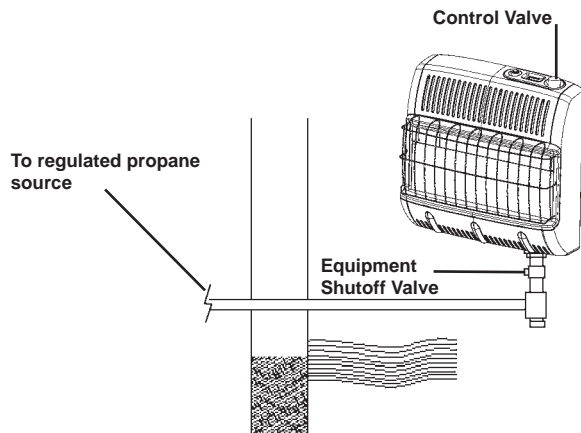

Figure 14
3. Check all joints from the gas meter to equipment shutoff valve (see figure 14). Apply mixture of liquid soap and water to gas joints. Bubbles forming show a leak.
5. Check all joints from equipment shutoff valve to control valve (see figure 14). Apply mixture of liquid soap and water to gas joints. Bubbles forming show a leak.